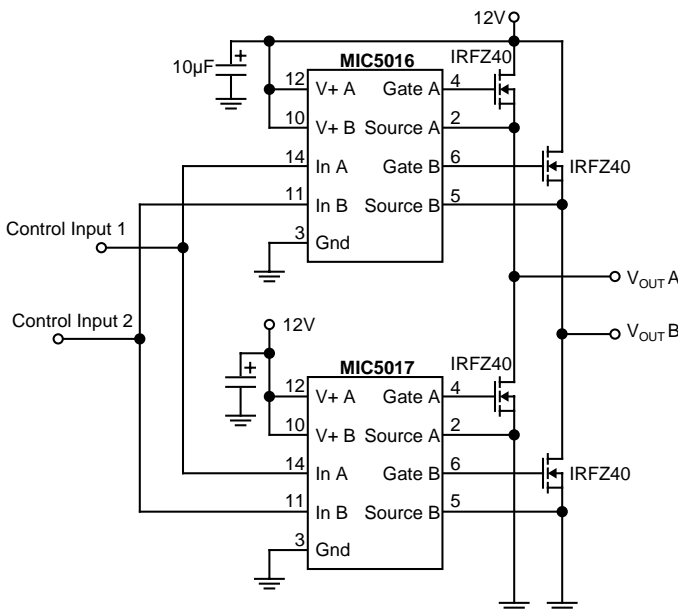

Figure 13: Push-Pull Driver
**Push-Pull Driver With No Cross-Conduction** (Figure 13)